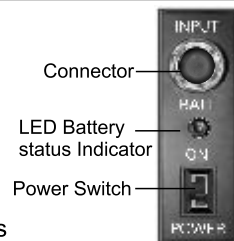
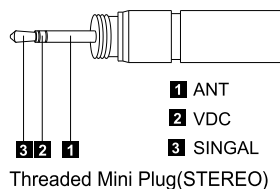

Fig. 7
Fig. 6
4. Sliding the power switch of the transmitter control panel to "ON" position, as shown in Fig. 7, the battery status indicator gives a flash to indicate a normal operation. If there is no flash, it indicates either power supply is not available or battery is installed wrongly. If the indicator keeps lighting, it indicates that battery is weak, a replacement is necessary.
5. The pin arrangement of the transmitter's connector jack is shown in Fig. 6. A unique feature of the M-303 is its separate high / low impedance and bias with the same jack for ECM input. You could properly match the high impedance input signals such as electric guitar, or low impedance input signals such as dynamic microphone, then choose the proper input connecting cable and plug correctly, as shown in Fig. 7, 8, and 9.